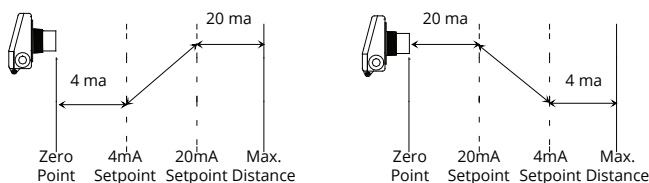

Figure 3.7
*20 mA Set Point* sets the distance at which the output is 20 mA. This distance is measured from the Zero Point. See Figures 3.7 and 3.8.
For Distance configuration (i.e., greater mA output for target surface further from sensor), set the *4 mA Set Point* to be less than the *20 mA Set Point*. See Figure 3.7.
For Fill configuration (i.e., greater mA output for target surface closer to sensor), set the *4 mA Set Point* to be greater than the *20 mA Set Point*. See Figure 3.7.